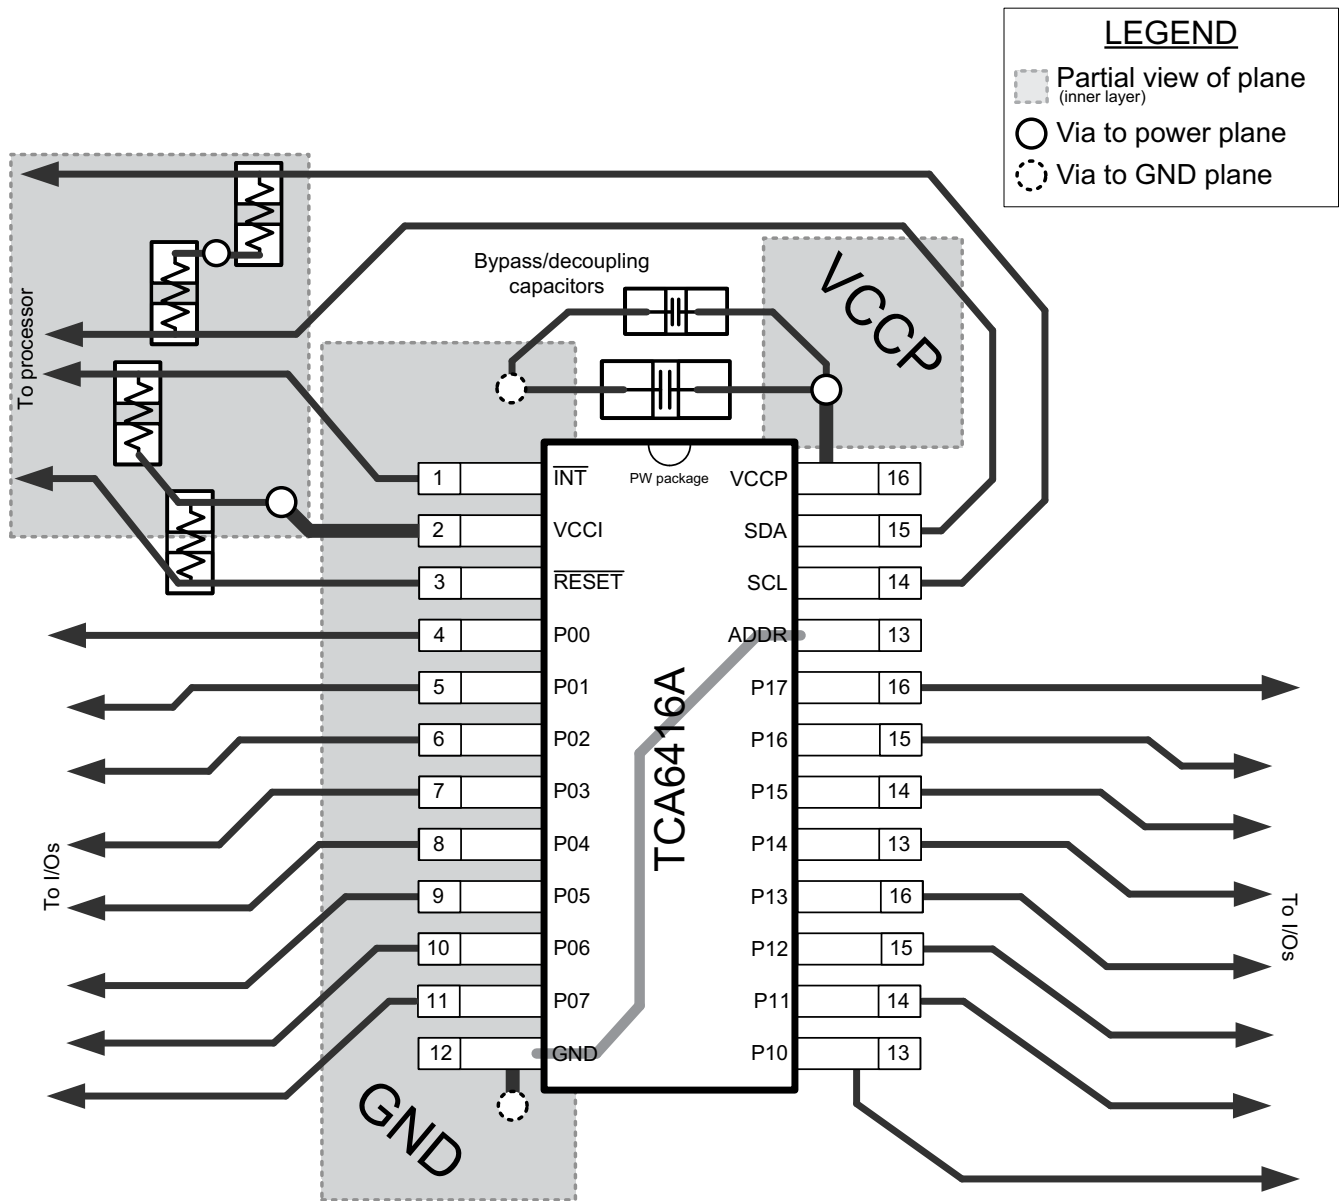

图 11-1. TCA6416A Layout
In all PCB layouts, it is a best practice to avoid right angles in signal traces, to fan out signal traces away from each other upon leaving the vicinity of an integrated circuit (IC), and to use thicker trace widths to carry higher amounts of current that commonly pass through power and ground traces. By-pass and de-coupling capacitors are commonly used to control the voltage on the VCCP pin, using a larger capacitor to provide additional power in the event of a short power supply glitch and a smaller capacitor to filter out high-frequency ripple. These capacitors should be placed as close to the TCA6416A as possible. These best practices are shown in Figure 11-1.
For the layout example provided in Figure 11-1, it would be possible to fabricate a PCB with only 2 layers by using the top layer for signal routing and the bottom layer as a split plane for power ( $V_{CCI}$  and  $V_{CCP}$ ) and ground (GND). However, a 4 layer board is preferable for boards with higher density signal routing. On a 4 layer PCB, it is common to route signals on the top and bottom layer, dedicate one internal layer to a ground plane, and dedicate the other internal layer to a power plane. In a board layout using planes or split planes for power and ground, vias are placed directly next to the surface mount component pad which needs to attach to  $V_{CCI}$ ,  $V_{CCP}$ , or GND and the via is connected electrically to the internal layer or the other side of the board. Vias are also used when a signal trace needs to be routed to the opposite side of the board, but this technique is not demonstrated in Figure 11-1.